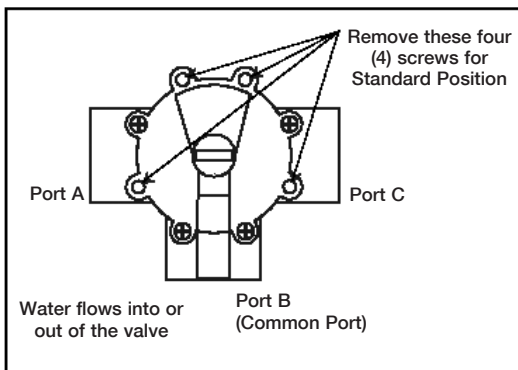
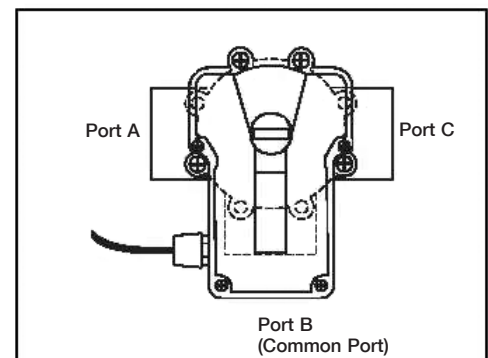
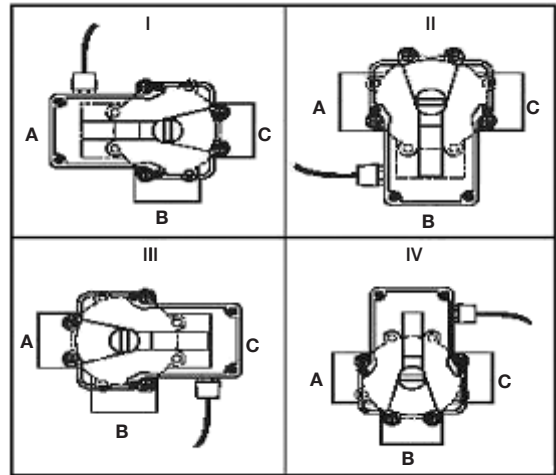

Figure 1. Standard Plumbing.
Figure 2. Standard Mounting.
Figure 3. Mounting Positions.
1. **Standard Plumbing** of a three-port valve is the port B (middle) being the incoming (common) port and A and C ports are the outlet ports (See figure 1).
2. **Standard Actuator Mounting** position is when the main body of the Actuator is over port B (See figure 2).
NOTE: If the valve is plumbed as in Figure 1 and the Actuator is mounted as in Figure 2 below, the factory setting of Actuator cams need no adjustment.
3. The Actuator can be mounted on top of a valve in four different positions (See figure 3).
2. Depending on mounting position selected, (See figure 3), remove (4) Philip head screws from valve body. (See figure 1).
1. Find the mounting position of the Actuator in Figure 3, Page 2.